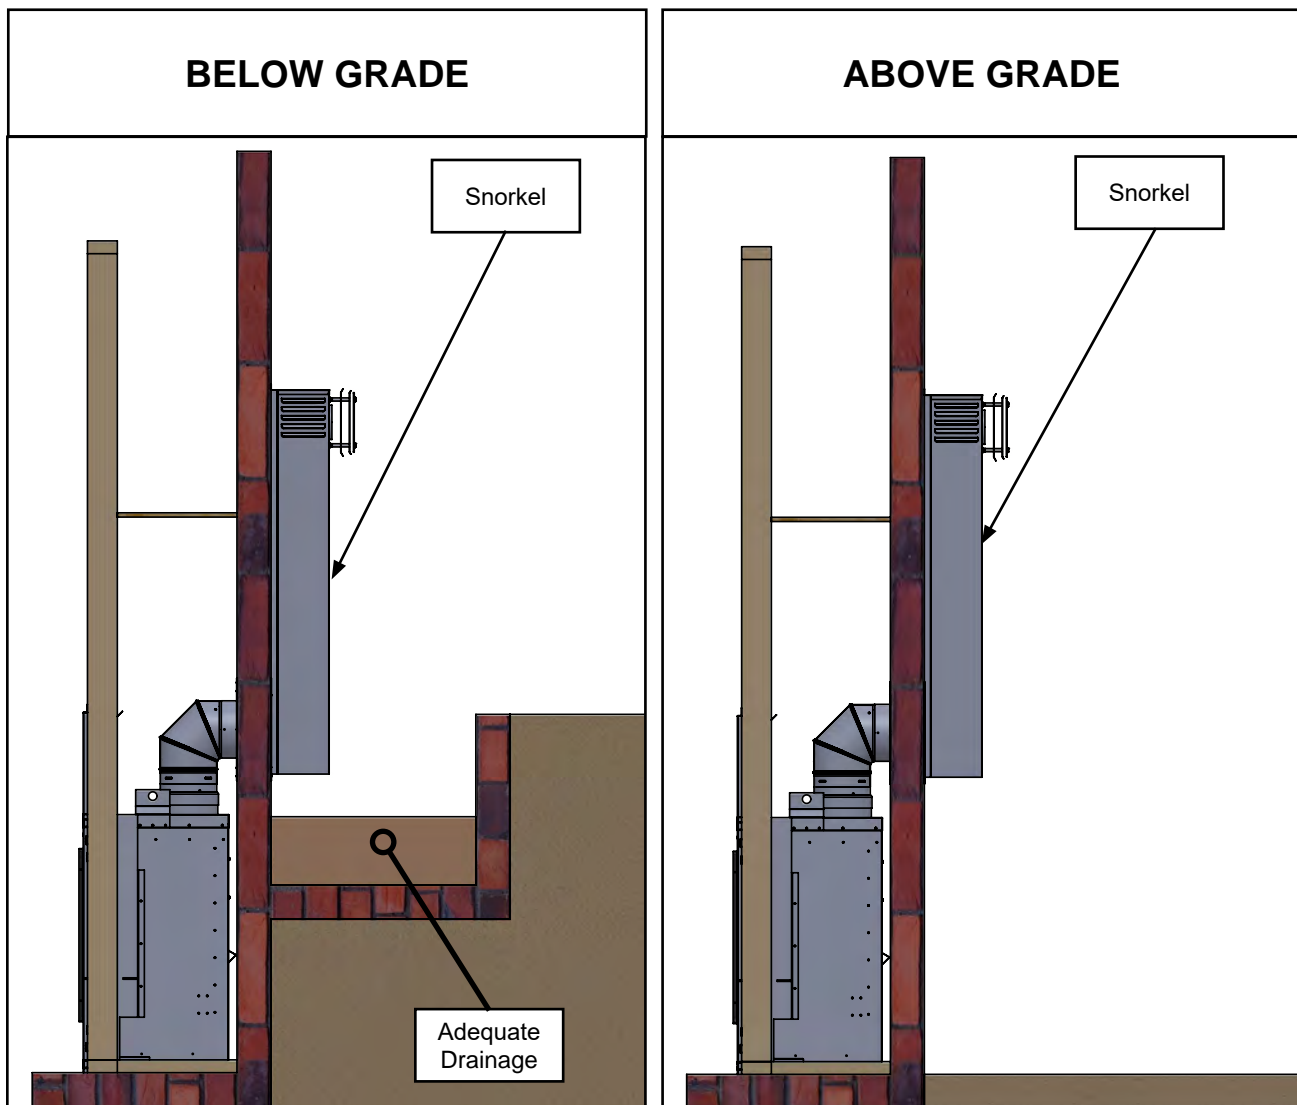

Figure 10.7.01
- A snorkel counts as two 90° elbows out of the total number of allowable elbows in the vent run. For example, the installation in **Figure 10.7.01** shows the use of 3 90° elbows.
- If the snorkel termination is installed below grade, (IE: basement) proper drainage must be provided to prevent water from entering the snorkel termination (see **Figure 10.7.01**).